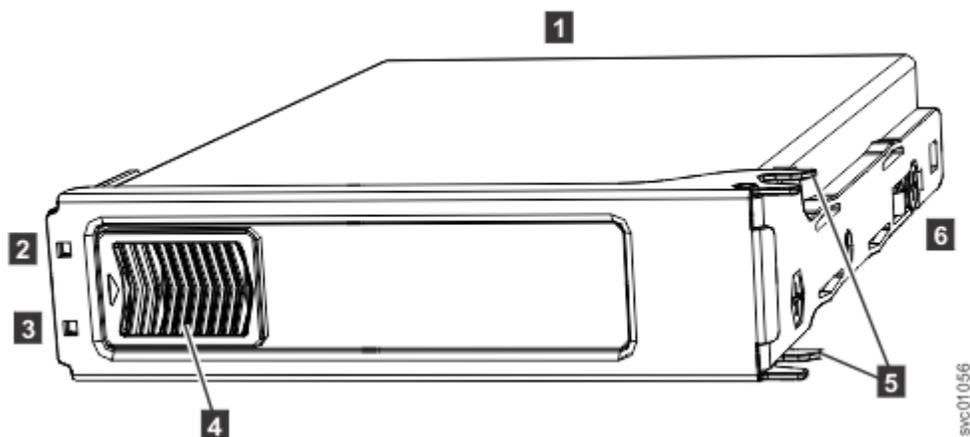

Figure 144. LEDs on a drive assembly
Figure 144 on page 132 shows the components of a drive assembly. Each drive has an online indicator (2) and fault indicator (3).